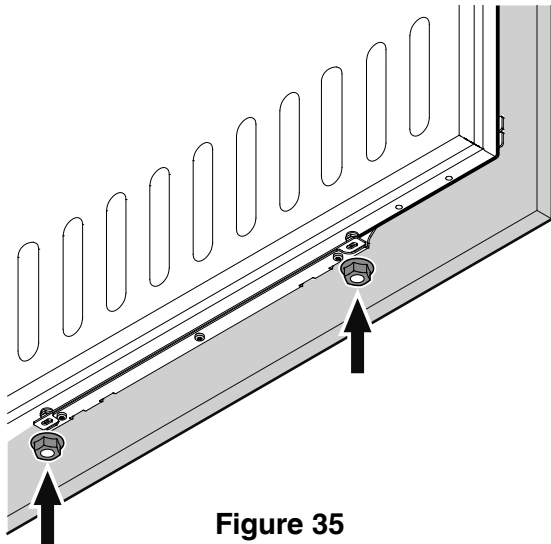

Figure 35
9. Screw on the hex nuts and tighten (Figure 35).